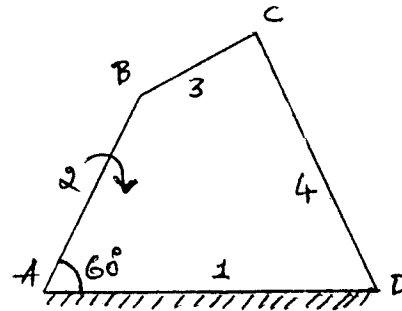

Fig.Q4
- 4 A pin jointed four bar mechanism ABCD is shown in Fig.Q4. Link AB = 150 mm, BC = 180 mm, CD = 180 mm and the fixed link AD = 300 mm. Link AB makes 60° with the link AD, and rotates uniformly at 100 rpm. Locate all the instantaneous centres and find the angular velocity of link BC and the linear velocity of link CD. (16 Marks)